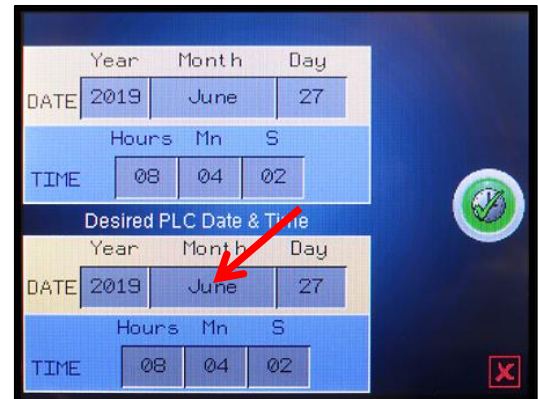

Figure 70
3. To change the month, press inside the **Month** box (arrow), Fig. 70.